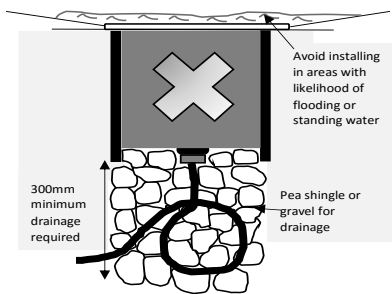
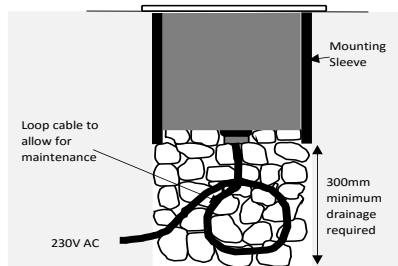
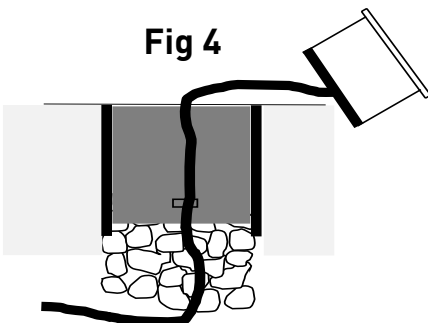

Fig 4
Fig 5
Fig 6
- Avoid installing in areas where water will sit on top of the fitting for long periods of time (see Fig 4)
- Ensure a minimum of 300mm drainage is put in below the luminaire (see Fig 5). **Note: the drainage below the luminaire should be able to drain the water away within 30mins**
- Ensure there is enough cable below the fitting in order to carry out maintenance work (see Fig 4, Fig 5 and Fig 6)